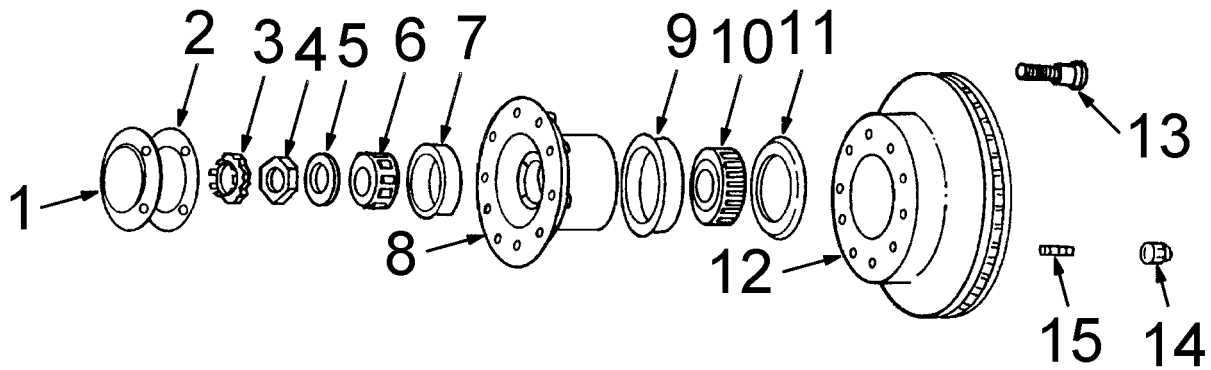
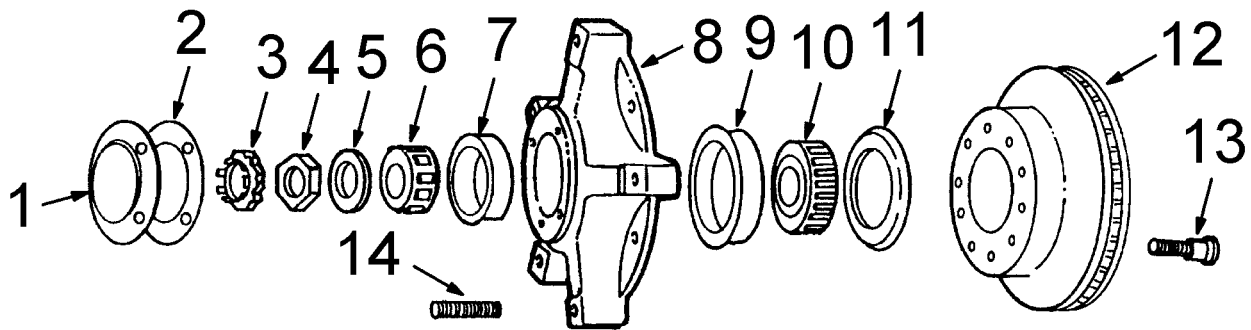

Figure 30 Remove Front Rotor And Wheel Hub Assembly
Figure 31 Remove Front Rotor And Wheel Hub Assembly
5. On front axles, for removal of rotor and wheel hub assembly (Items 12 and 8, Figure 30) (See Figure 30, page 34) and (Items 12 and 8, Figure 31) (See Figure 31, page 35), refer to GROUP 02- FRONT AXLE in the Master Service Manual for proper rotor and wheel hub assembly removal. Place rotor and wheel hub assembly along with bearings and related components on a clean, dry surface out of the way and save for reinstallation.
7. Separate front rotor from wheel hub (Items 12 and 8, Figure 30) (See Figure 30, page 34) and (Items 12 and 8, Figure 31) (See Figure 31, page 35) by removing retaining nuts and washers (Item 14, Figure 30) (See Figure 30, page 34) or retaining bolts, washers and nuts (Item 13, Figure 31) (See Figure 31, page 35) securing them together.